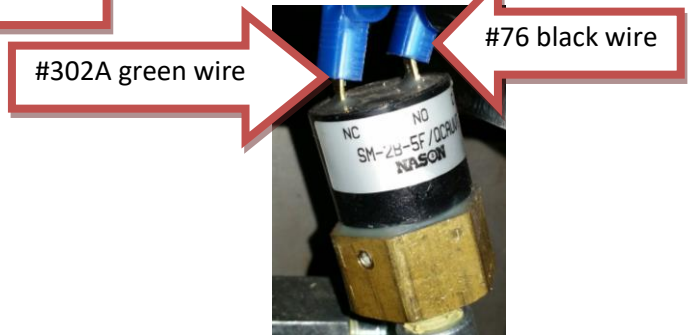

Figure 5 – KA4H fuel pressure switch – Jumper between "NC" (green #302A) and "C" (black #76) terminals together.
- With the engine running from the main pump controller, jumper between the “C” and the “NC” terminals of the fuel pressure switch located near the fuel transfer pump outlet. (see Figure 5)